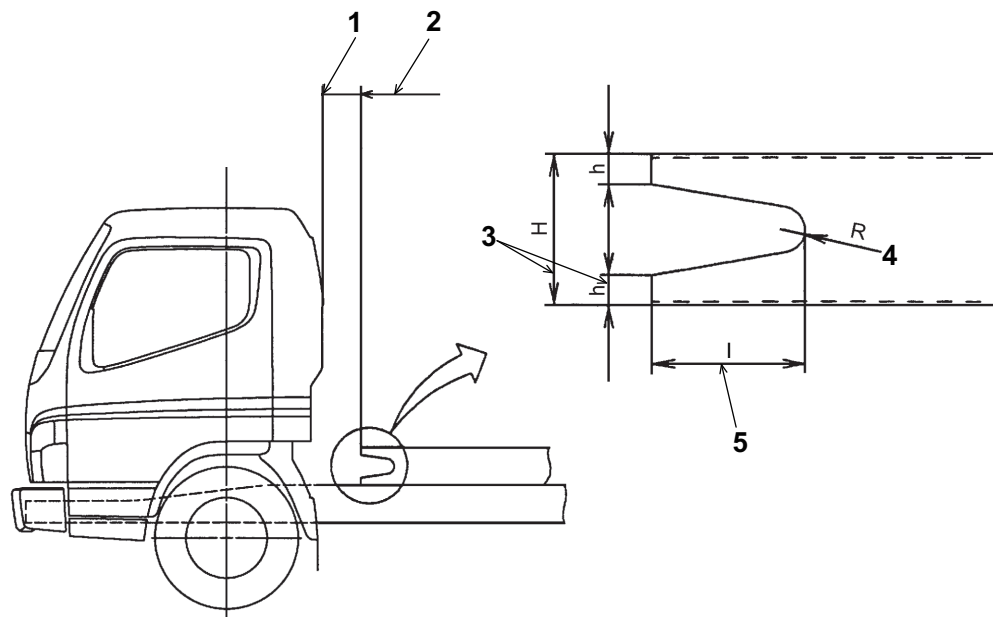
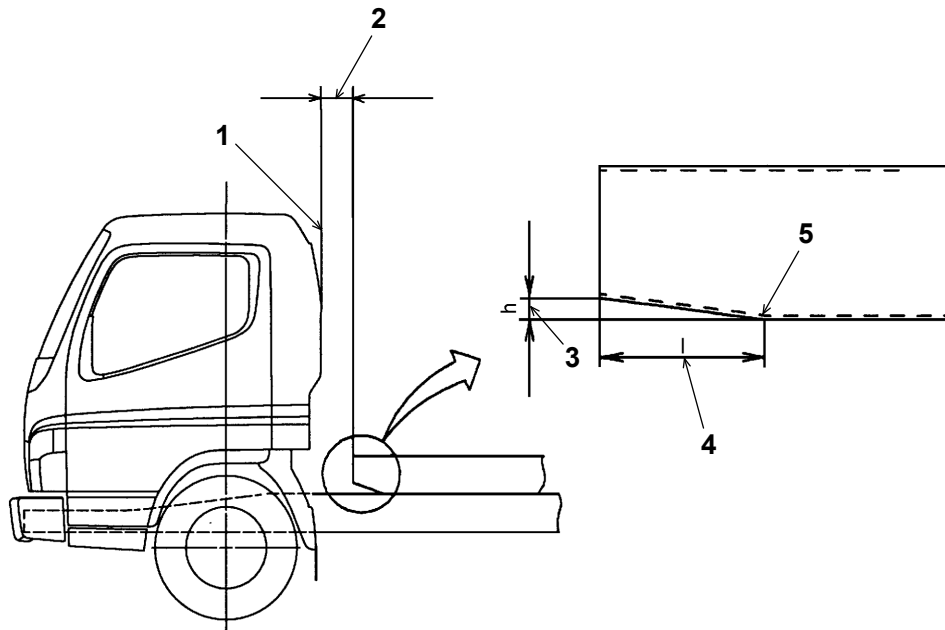

Fig. 2
Fig. 4
(a) Install the mounting frame having the shape as shown in Fig. 2 to gradually reduce the stress concentrations in the front end.
- (b) The shape of the mounting frame front end as shown in Fig. 2 is highly desirable. However, if there is enough room behind the cab, the shape as shown in Fig. 3 is also acceptable.
- (c) If it is difficult to shape the front end of the mounting frame as described in Fig. 2 and Fig. 3, cut it to the shape as shown in Fig. 4 before installation.